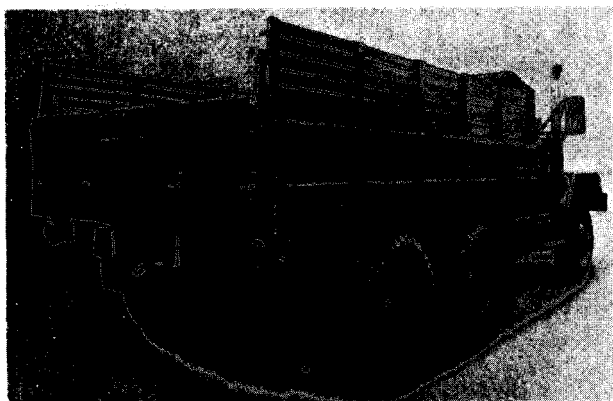

Figure 2-1. *Truck, cargo, 5-ton, 6x6, M813.*
a. *Truck, Cargo, M813 (Fig 2-1).* This truck has a 179-inch wheel base, with a 7- x 14-foot flatbed cargo box (550 cubic feet).